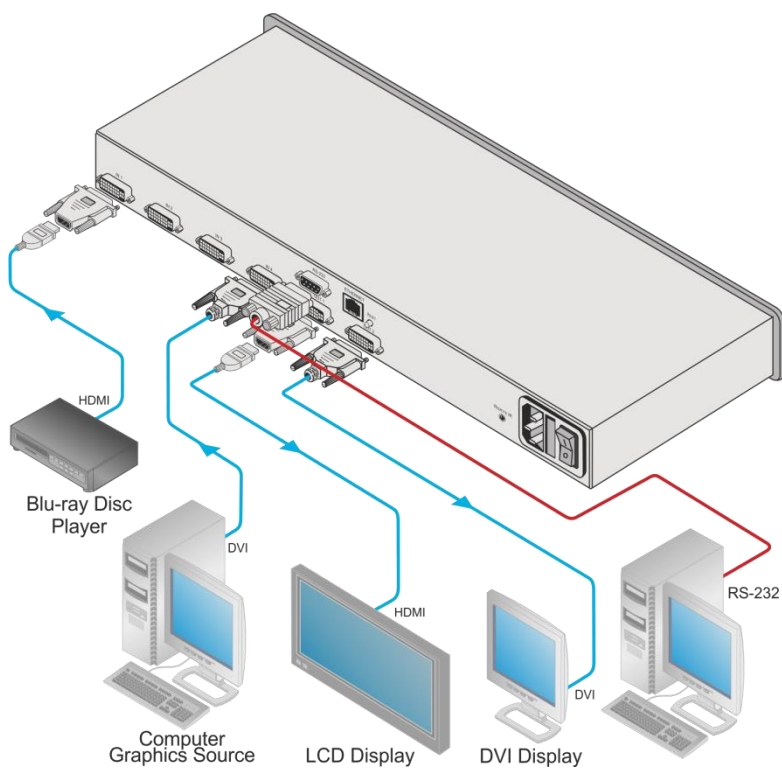

Figure 3: Connecting to the VS-42HDCP Rear Panel
To connect the VS-42HDCP as illustrated in the example in Figure 3:
4. Connect the power cord (not shown in Figure 3).